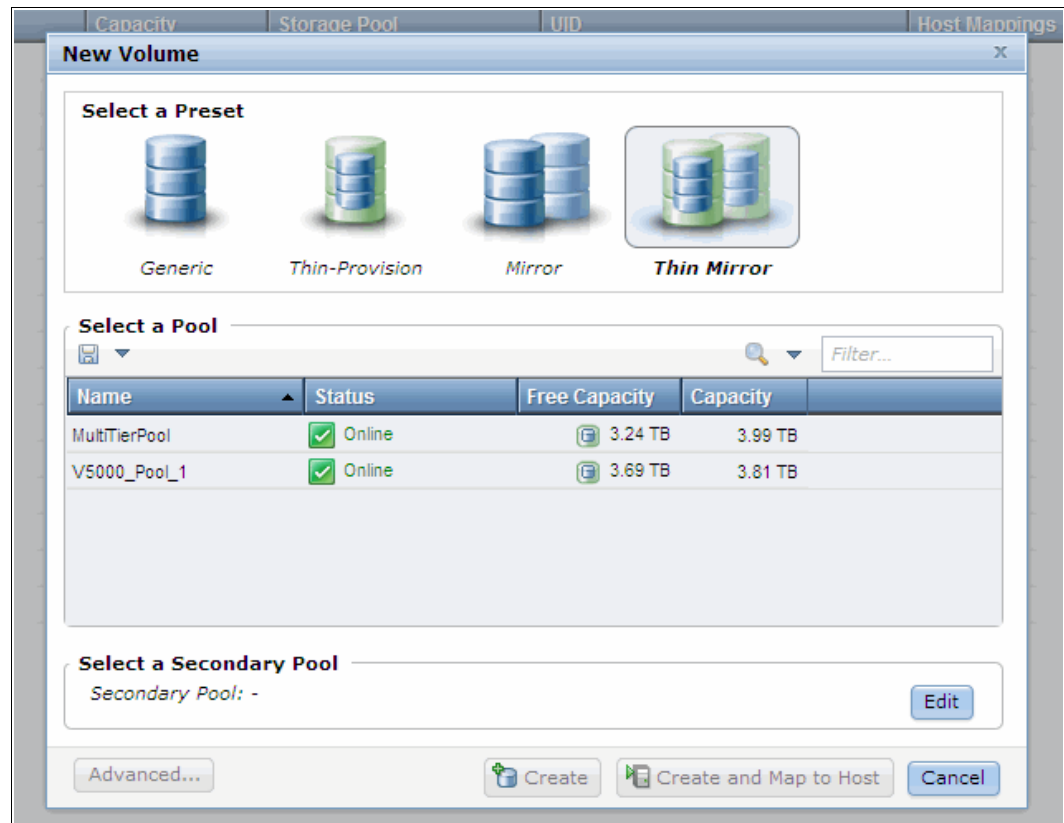

Figure 5-17 Create a Thin Mirror
1. Select **Thin Mirror**, as shown in Figure 5-17.